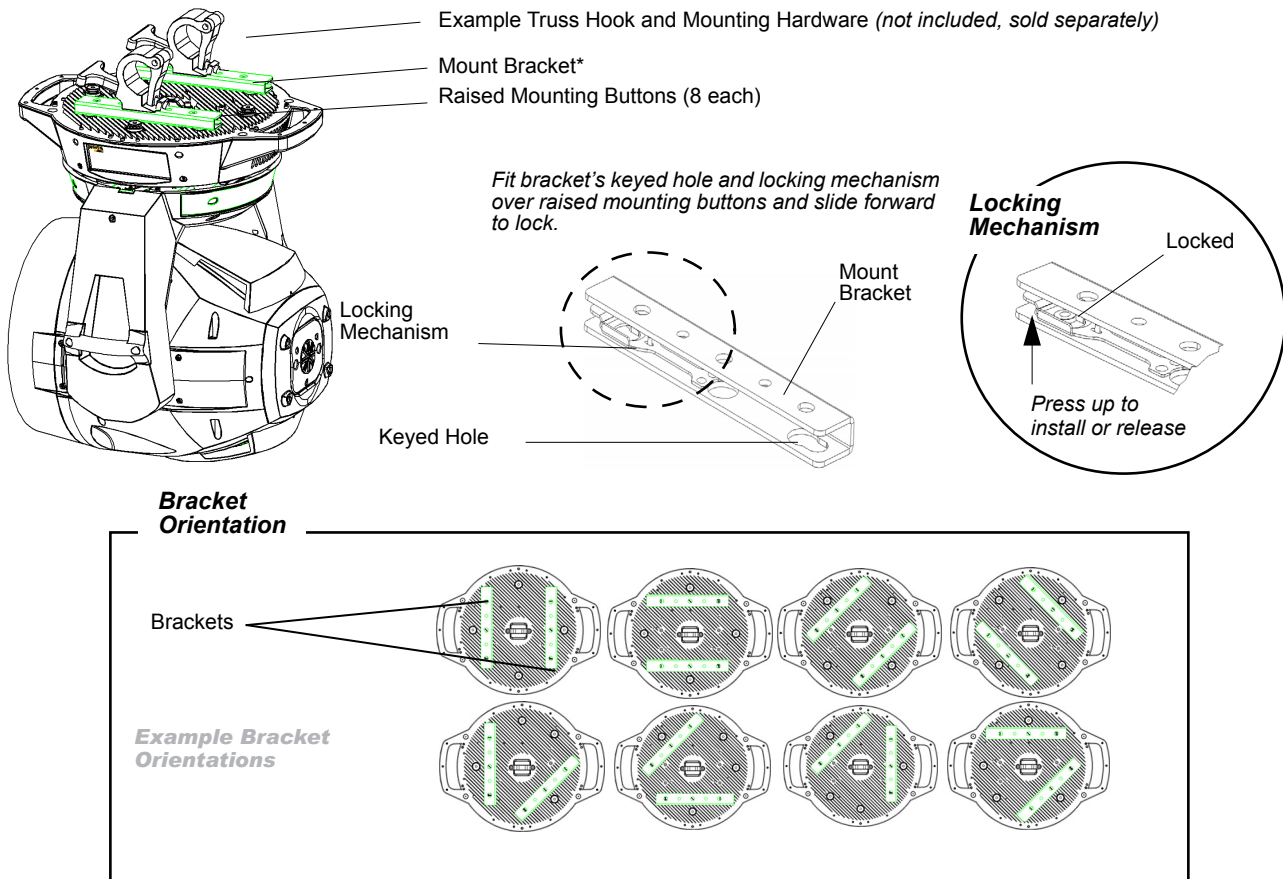

Figure 10: Installing Brackets on Luminaire Enclosure
- Step 2. Determine required configuration of bracket installation. Brackets may be installed in many different orientations as shown in **Figure 10**.